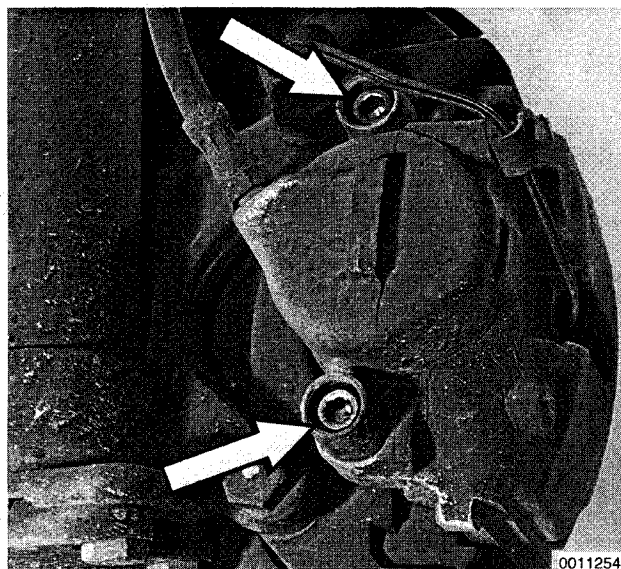

Fig. 3. Brake caliper guide bolts (arrows).
2. Remove plastic caps from guide bolts and then remove guide bolts. See Fig. 3.